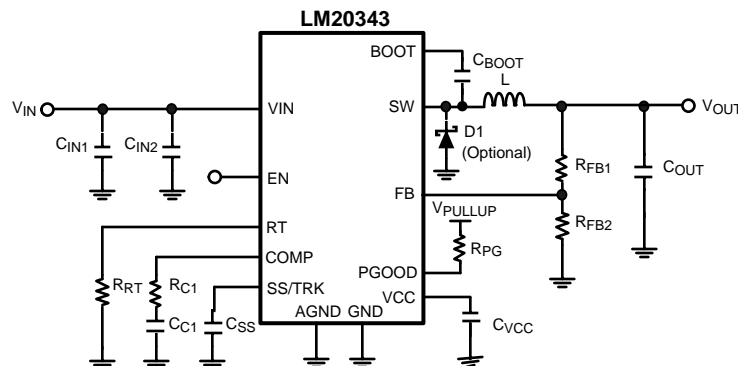

Figure 25. Typical Application Circuit
The LM20343 switching regulator features all of the functions necessary to implement an efficient buck regulator using a minimum number of external components. This easy to use regulator features two integrated switches and is capable of supplying up to 3A of continuous output current. The regulator utilizes peak current mode control with nonlinear slope compensation to optimize stability and transient response over the entire output voltage range. Peak current mode control also provides inherent line feed-forward, cycle-by-cycle current limiting and easy loop compensation. The switching frequency can be varied from 250 kHz to 1 MHz with an external resistor to ground. Fault protection features include: current limiting, thermal shutdown, over voltage protection, and shutdown capability. The device is available in the HTSSOP package featuring an exposed pad to aid thermal dissipation. The typical application circuit for the LM20343 is shown in Figure 25 in the design guide.
This section walks the designer through the steps necessary to select the external components to build a fully functional power supply. As with any DC-DC converter numerous trade-offs are possible to optimize the design for efficiency, size, or performance. These will be taken into account and highlighted throughout this discussion. To facilitate component selection discussions the circuit shown in Figure 25 below may be used as a reference. Unless otherwise indicated all formulas assume units of amps (A) for current, farads (F) for capacitance, henries (H) for inductance and volts (V) for voltages.